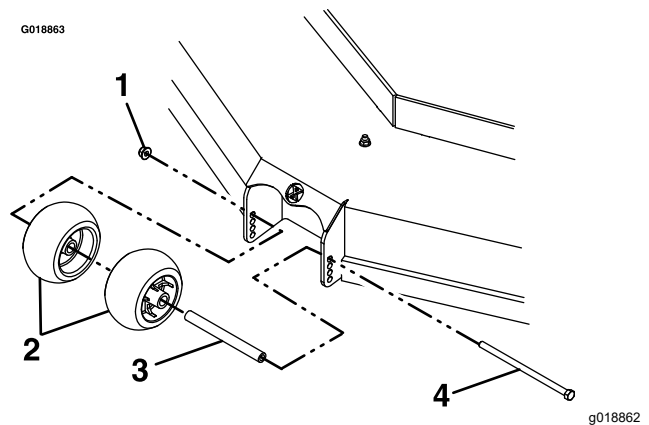

Figure 30
6. Torque the nyloc nut (3/8 inch) to 41 to 47 N·m (30 to 35 ft-lb) as shown in Figure 30.